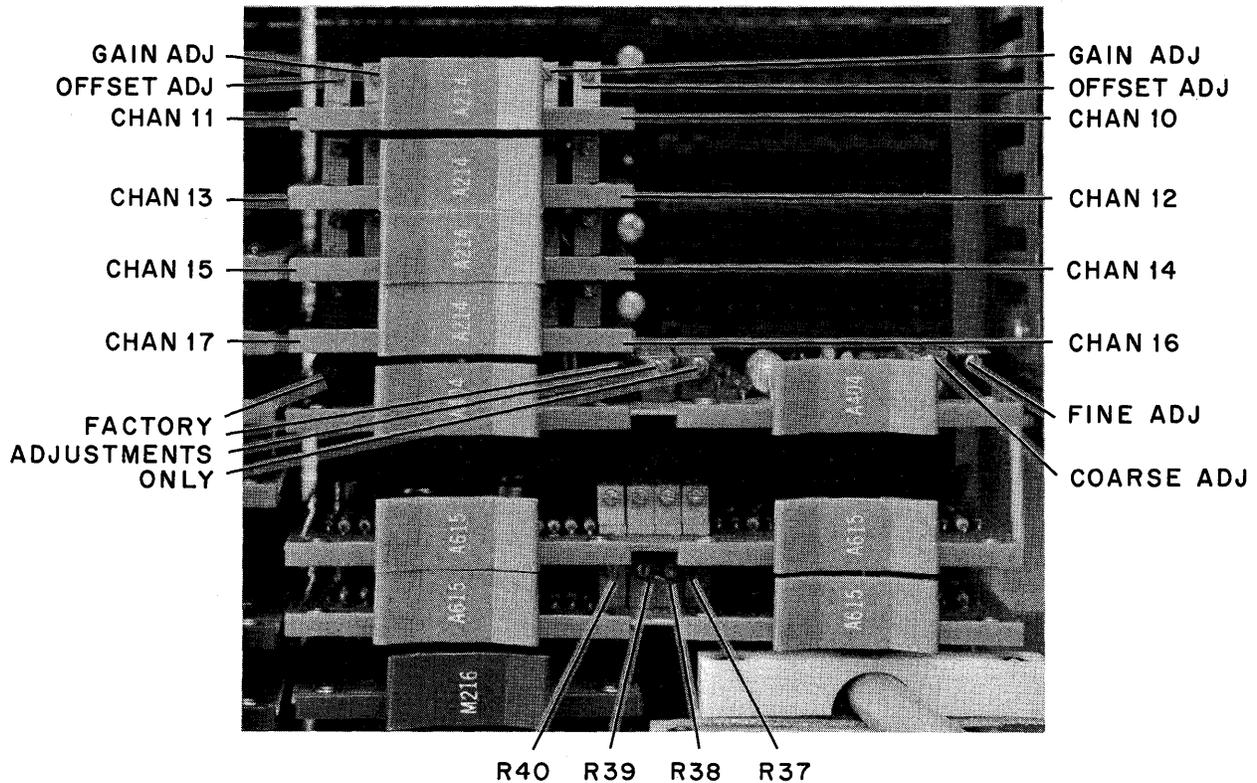

Figure 3-21 Sample and Hold Adjustments
The four most significant bits of Module A615, Digital-to-Analog Converter, are adjustable (R37 through R40 in Figure 3-21); bit 3 being the most significant, and bit 6 being the least significant. A misadjusted A615 displays a line either with gaps or overlays, or a combination of both. Figure 3-20 provides an example of all four significant bits being set too short. Data bit 3, being too short, divides the line into two equal halves (D). Data bit 5 divides the line into 8 segments (B) and, likewise, bit 6 divides the line into 16 equal segments (A).
Do not adjust any other controls except those specifically mentioned in Paragraph 3.8.7 and shown in Figure 3-21. If compensating trim pots located on Module A404 are disturbed, the module must be returned to DEC for proper calibration.
7	While monitoring Channel 17, adjust the COARSE ADJ (see Figure 3-21) Module A404 (locations E and F34) until Channel 17 displays 000 (see Figure 3-21). Then adjust the FINE ADJ until the sign of the Channel 17 000 display oscillates between + and -. This oscillation indicates proper adjustment.
5	Monitor Channel 10, and adjust the right OFFSET potentiometer of Module A214, at location E30, for a -000. Turning the trimpot (shown in Figure 3-21) CCW increases the number.